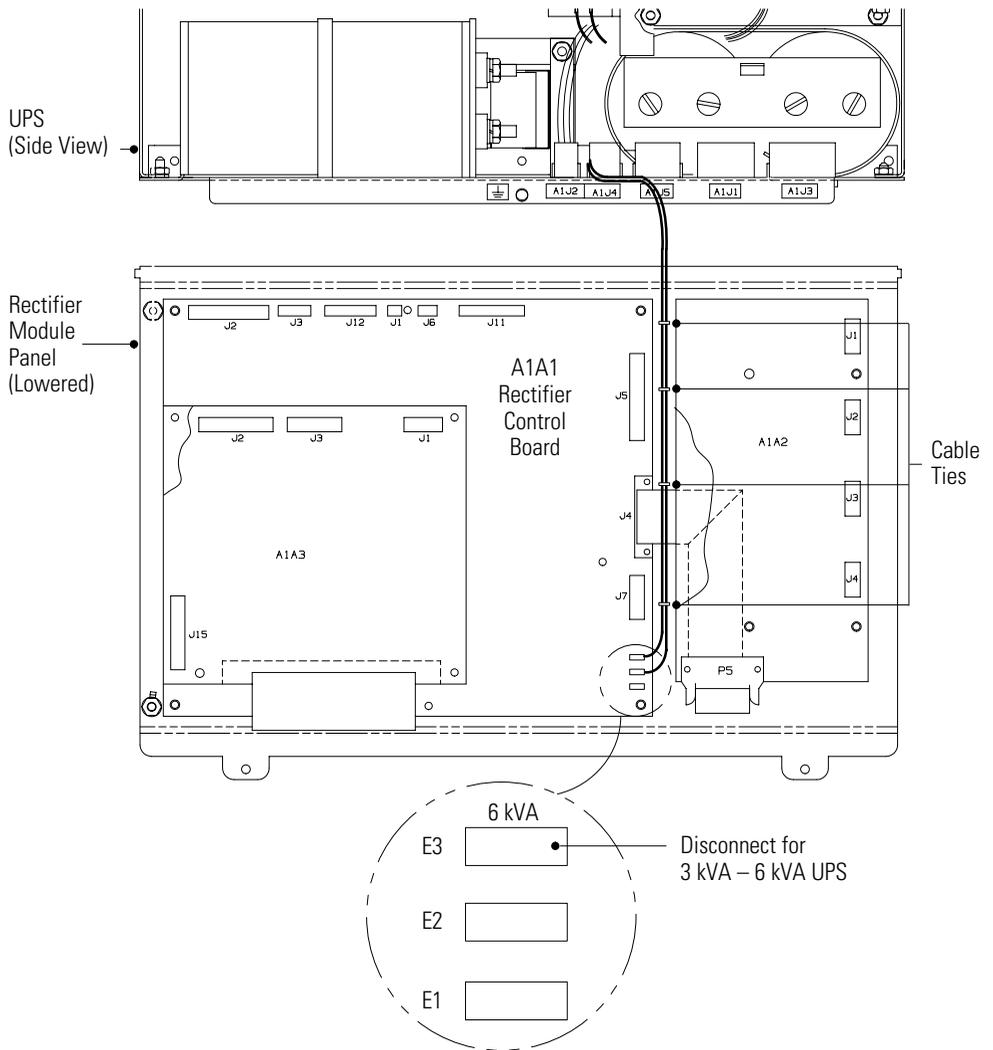

Figure 5. Rectifier Module Panel for the 3 kVA – 6 kVA UPS
9. Locate the rectifier control board (A1A1) in the center of the Rectifier Module panel (see Figure 5). Remove the quick-connect from the rectifier control board labeled “6 kVA” or “E3.”